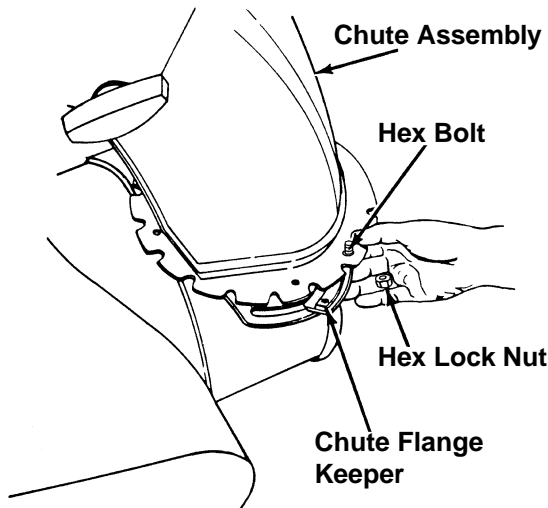

Figure 5
3. Insert hex bolt up through chute flange keeper and chute assembly as shown in figure 5. Secure with hex lock nut.